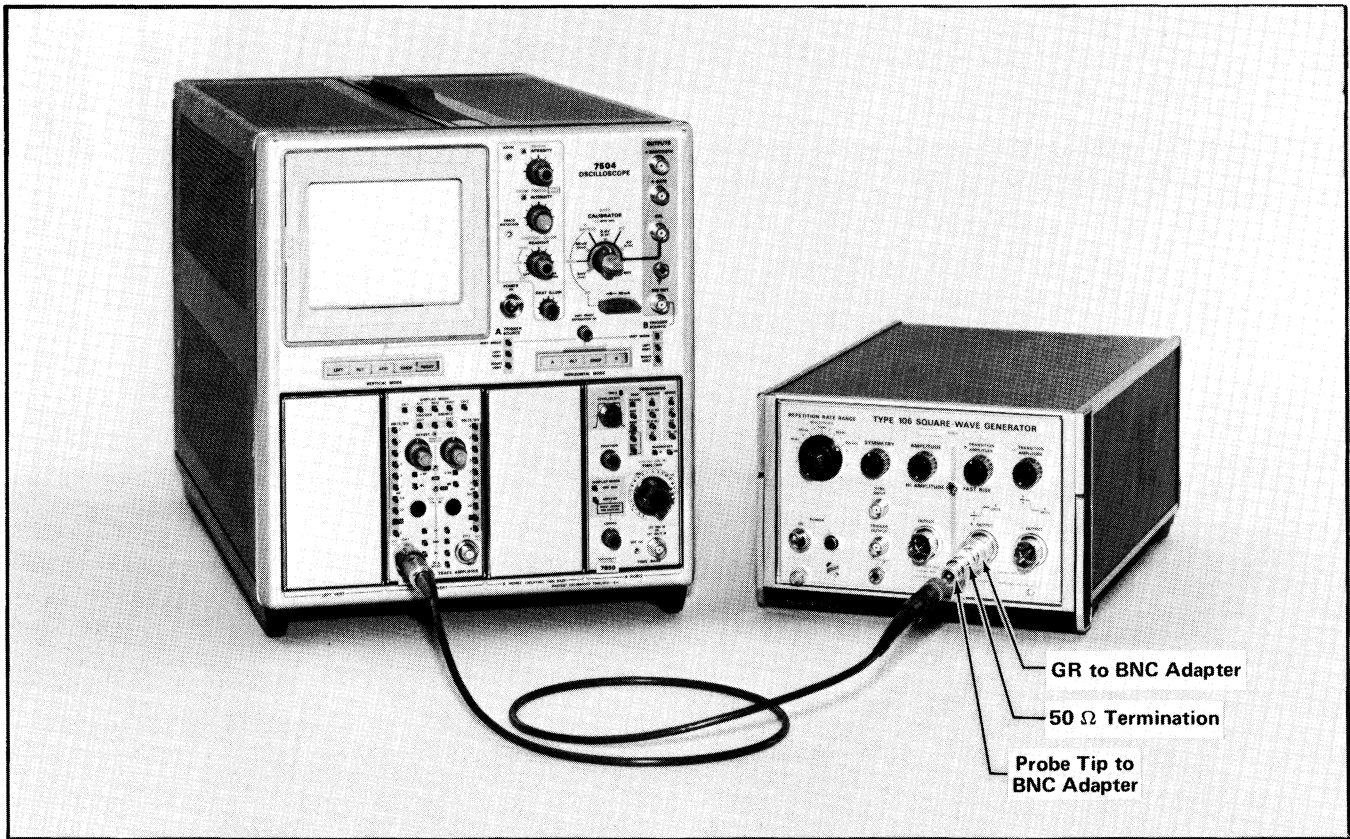

Fig. 5-4. Equipment setup for step 4.
- a. The equipment setup is shown in Fig. 5-4.